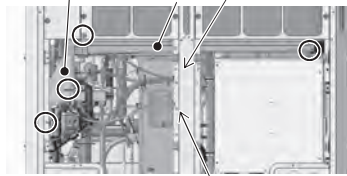

Figure 3
- (3) Remove the cable straps holding the weak and strong electrical wirings. (See Figure 3.)
- (5) Remove the drain cover by unscrewing the screw and cutting the cable tie. (See Figures 3 and 4.)
- (6) Remove the drain pan by unscrewing the 2 screws. (See Figure 3.)